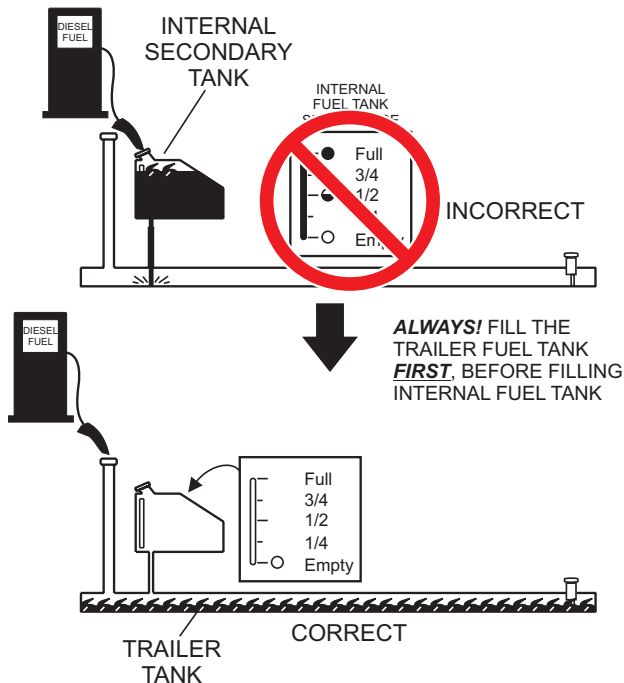

Figure 28. Fuel Tank Fill Order
2. **Fill the trailer fuel tank first.** The trailer fuel tank is the primary fuel tank and has a larger fuel capacity. The fuel in the trailer will be filtered and sent to the engine. **ALWAYS** fill the trailer fuel tank first (Figure 28).